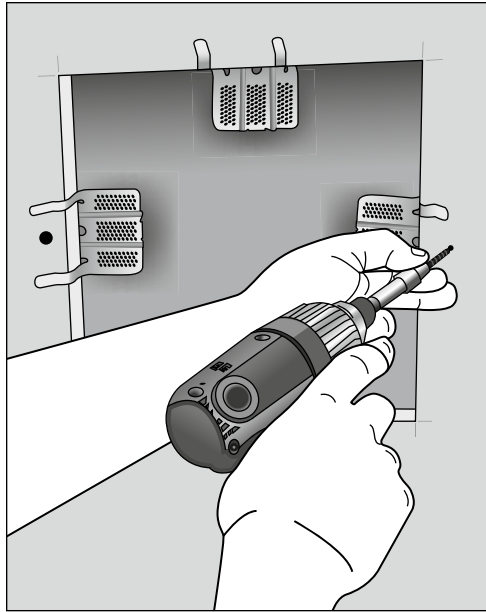

FIGURE 11-2:
4. **Install drywall clips on all sides of the hole (no more than 8 inches apart) and secure them using the screws provided with the clips.** See Figure 11-2.